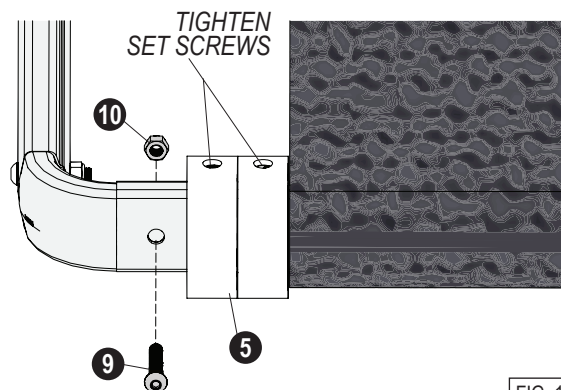

FIG. 113
- Insert the **arm corners (1)** into the cross tube. Install the button head **hex screw (9)** and **nuts (10)**. Tighten hardware securely.
- Adjust the **centering flanges (5)** to the tarp edge to keep the tarp centered on the cross tube. Tighten the **set screws** on the centering flanges to secure in position. See Figure 113.